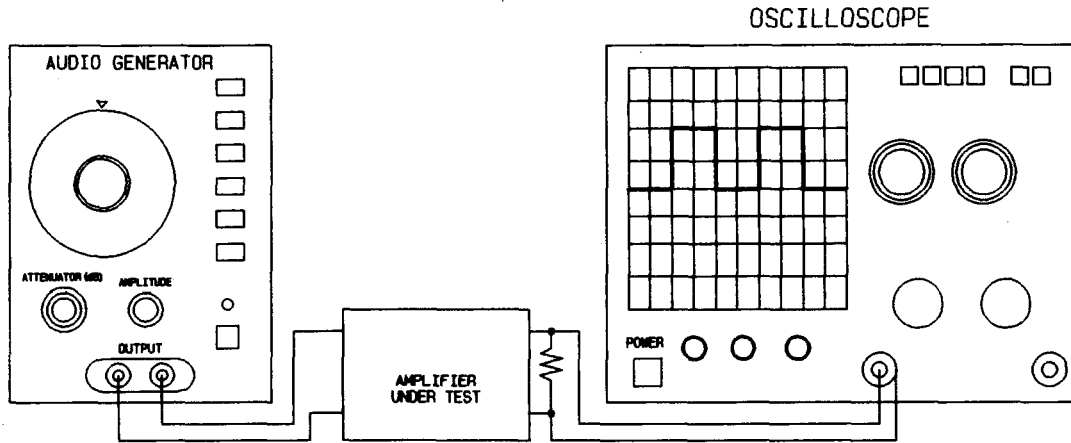

Fig.7
- 4.1 Connect the instrument, an amplifier to be tested and an oscilloscope as shown in Fig.7.